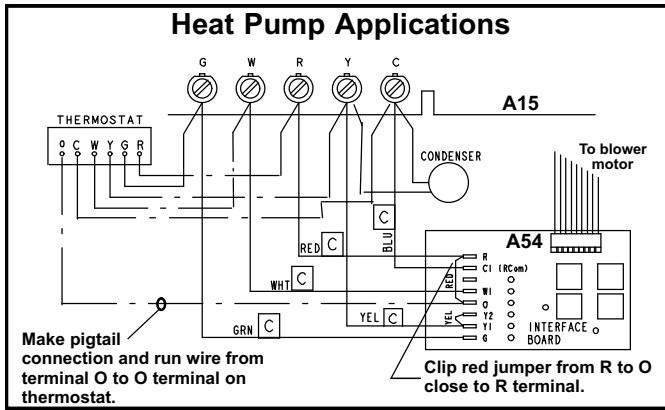

Figure 19
**For heat pump operation, cut the jumper between R and O near the R terminal of A54 and connect the pigtail to the thermostat O wire (A54 board "O" to thermostat "O"). See figure 19.**